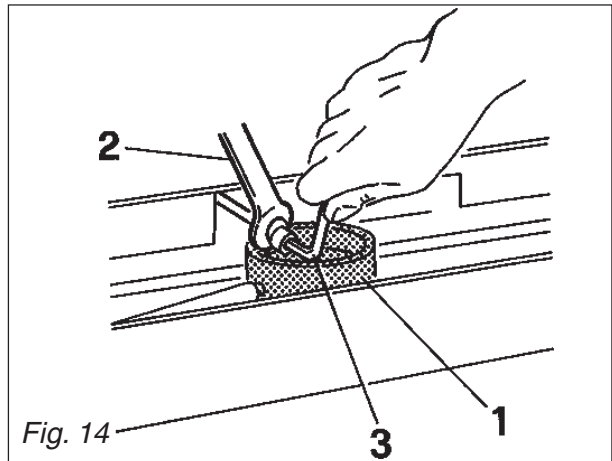

Fig. 14
- Using a spanner firmly hold 1 the outlet pipe 2 Fig.14 situated about the drainage sump while loosening the hexagonal sealing screw 3 by 3 turns at the most.